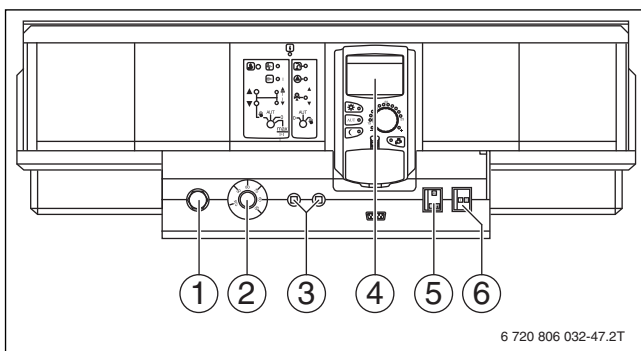

Fig. 3 Control unit, example CFB 930
Start your boiler at the control unit (in this example, Fig. 3: CFB 930). The adjustments made in the control unit will affect the burner as well. The burner can then be started by the control unit.
Shut your boiler down via the control unit (e. g. CFB 930, → Fig. 3, page 6). This also switches the burner off automatically.
- ▶ Set the ON/OFF switch (→ Fig. 3, [2]) to "0" (OFF).